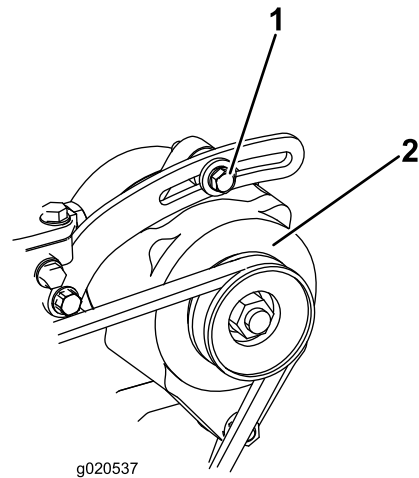

Figure 69
Check the condition and tension of the belt (Figure 69) after every 100 operating hours.
2. If the deflection is not 10 mm (3/8 inch), loosen the alternator mounting bolts (Figure 69). Increase or decrease the alternator belt tension and tighten the bolts. Check the deflection of the belt again to ensure that the tension is correct.